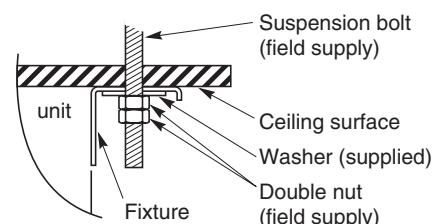

Fig. 1-56
(6) Preparation for suspending the indoor unit. The suspension method varies depending on whether the unit is next to the ceiling or not. (Figs. 1-56 and 1-57)